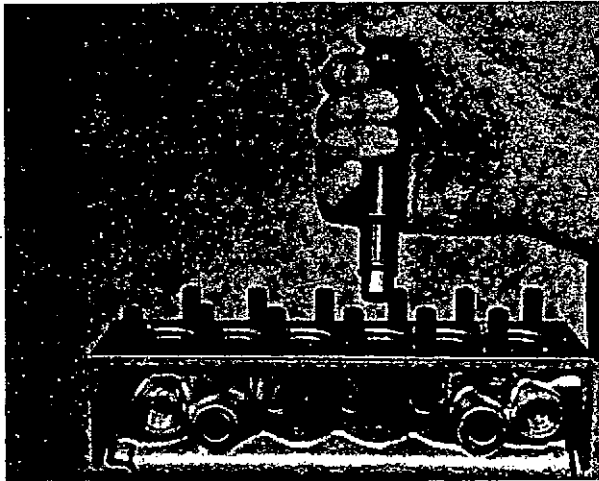

Fig. 29 Fitting rubber 'O' ring
3. Using tool 1 688 110 028, fit a rubber 'O' ring, see NOTE in 2 (b), to each bore (fig. 29). Depress tool plunger, fit a greased ring, enter tool fully into bore and release plunger.